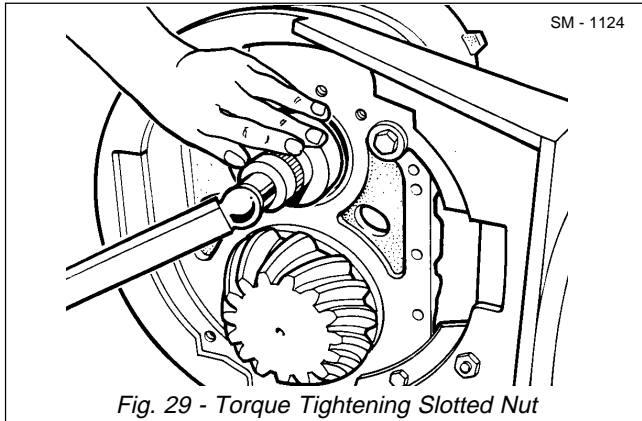

Fig. 29 - Torque Tightening Slotted Nut
16. Thread slotted nut (86) onto the threaded end of differential side gear (22). Tighten slotted nut (86) to a torque of 550 Nm (400 lbf ft). Refer to Fig. 29.